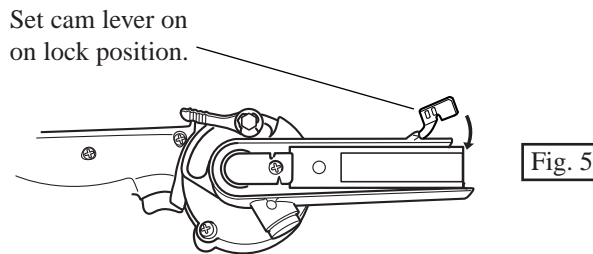

Fig. 5
(1) Set cam lever to lock position by pushing it in the direction of arrow as illustrated in Fig 5.
(2) Assemble arm tensioner and compression spring 6 into arm holder by pressing with arm cover as illustrated in Fig. 5 A.